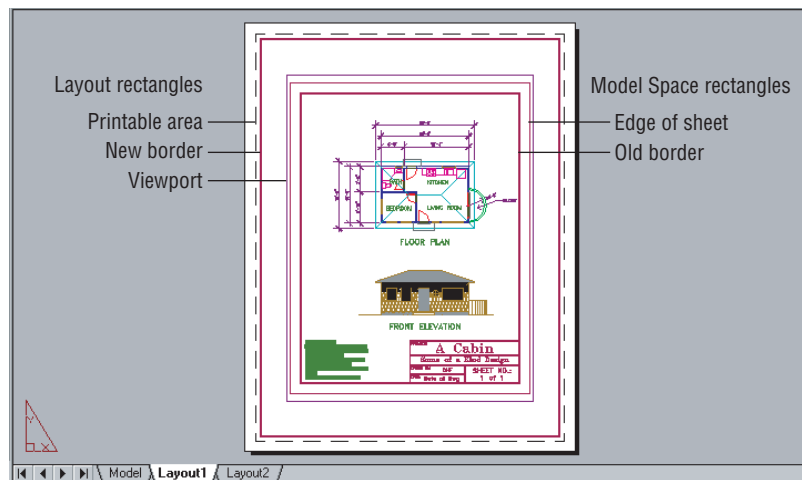

FIGURE 13.6: The new border in the layout, among a lot of rectangles
5. Click the new rectangle, and then activate the Properties palette. Change Global Width from 0 to $\frac{1}{32}$. Close the Properties palette, and press Esc to clear the grips. The lines of the offset rectangle are now $\frac{1}{32}$ " wide and will serve as the new border (see Figure 13.6).